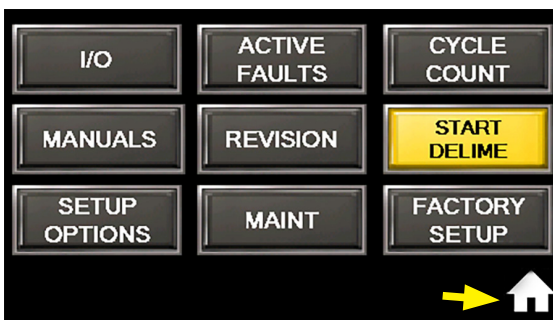
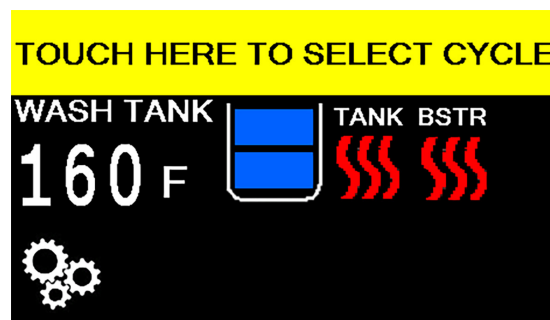

Fig. 40 - Home button
Fig. 41 - Main operation screen
8. Press the 'Home' button, (Fig. 40), to return to the main operation screen, (Fig. 41).